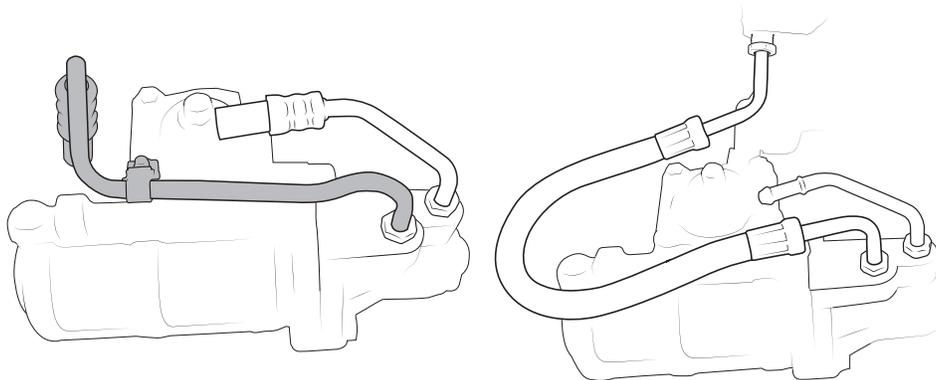

Figure 26: Before and After.
27. Modify the power steering return line to accept the supplied gear to cooler return line (fig 25) and then install on the steering gear (fig 26).
28. Install the supplied power steering pressure line (fig 26).